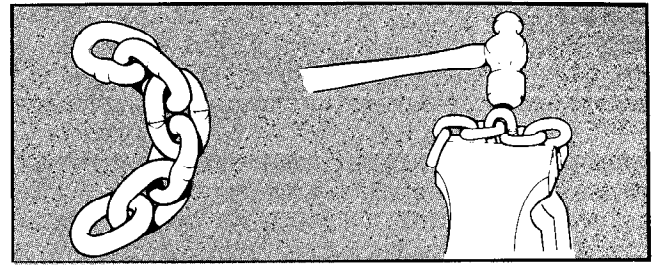

Figure 21. Cutting Chain by Nicking
- Use a grinder and nick the link on both sides (Figure 21), then secure the link in a vise and break off with a hammer.